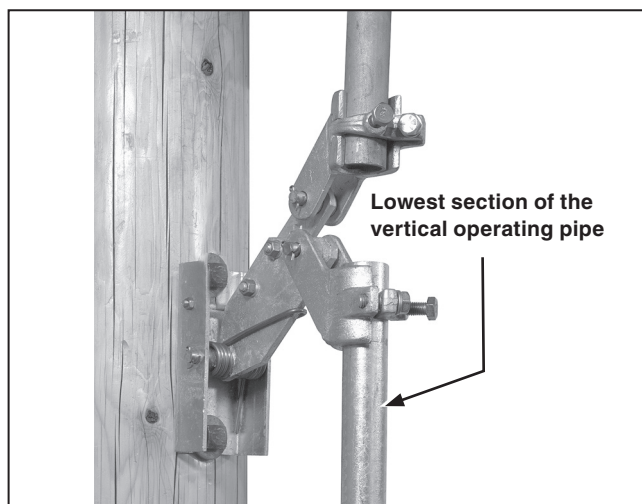

Figure 18. Installing the lowest operating pipe section into the rod guide.
**STEP 29.** Insert the upper end of this vertical pipe section in the lowest rod-guide coupling and, while holding the operating handle approximately 20 degrees from the **Closed** position, tighten the rod-guide clamp bolt. See Figure 18.